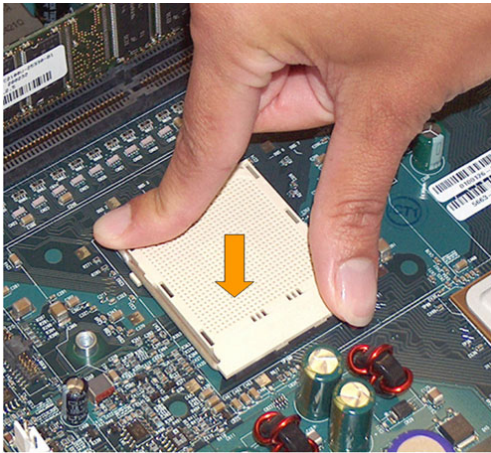

Figure 8. Ensure Proper Contact Between Backplate and Motherboard
6. Press firmly on the socket to ensure proper contact between the backplate and motherboard. (See Figure 8 on page 21.)